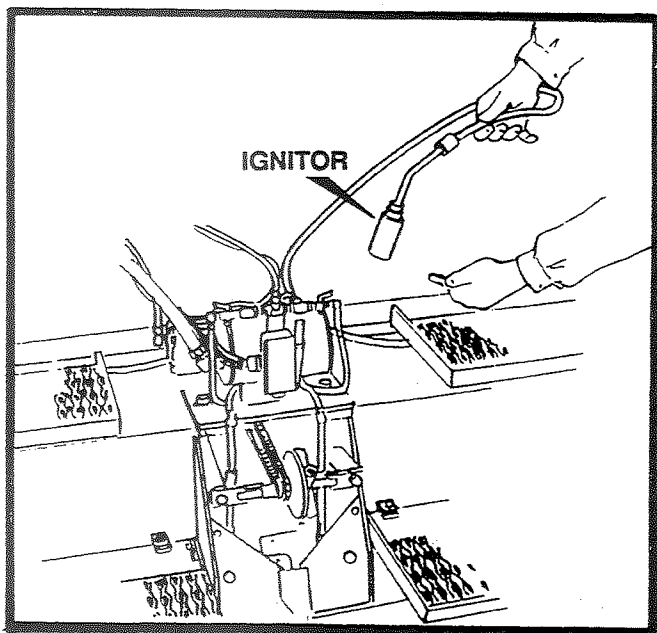

FIGURE 9
3. Use extension burner to light main burners manually. Hold extension burner at end of main burner and turn valve on. Repeat this procedure for opposite side. See figure 9 .
3. Ignite burner with striker or lighter. See figure 9.